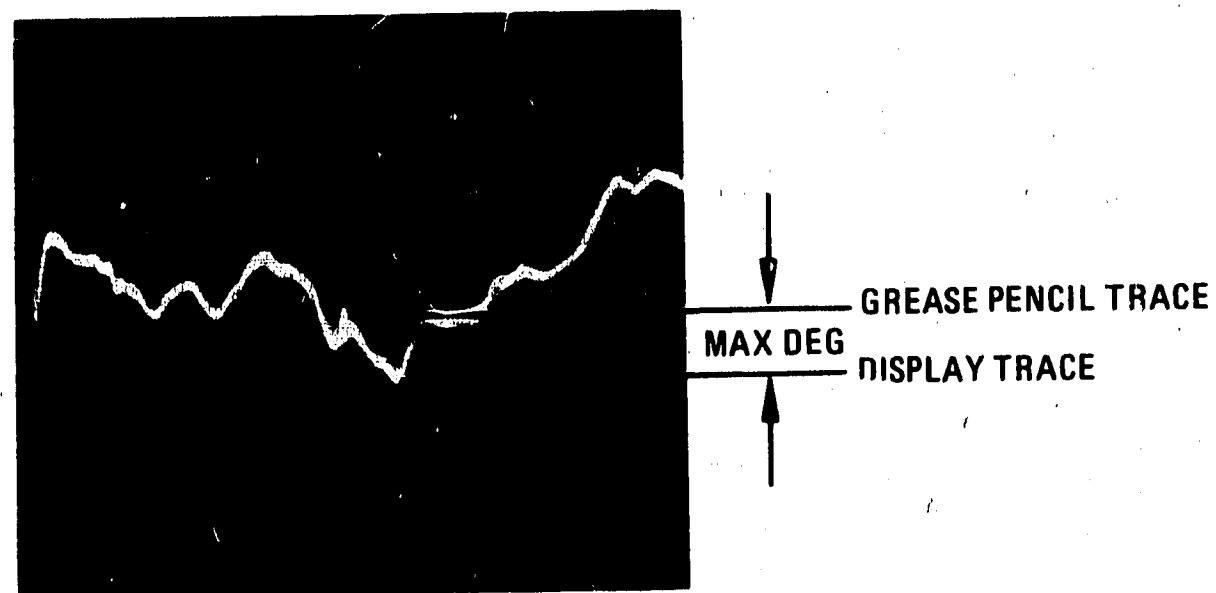

Figure 4-3. Transmission Frequency Response Phase
- p. Measure the maximum difference between the grease pencil trace and the display trace (Figure 4-3). This measured value should be $\leq \pm 12^\circ$.